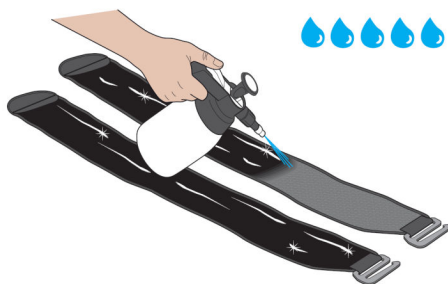

Fig. 43: i-body® straps flex
13. ➤ Moisten 2 more i-body® straps flex (Fig. 43).